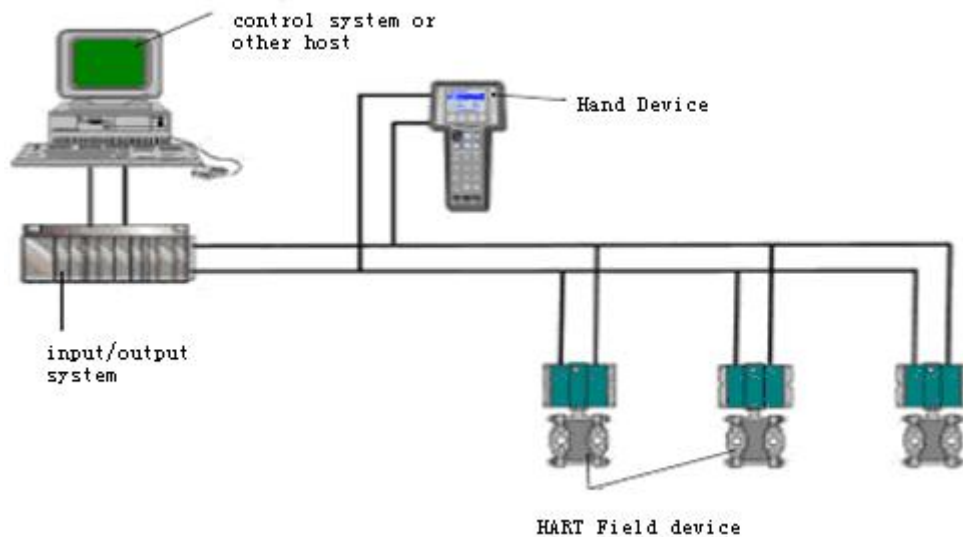

**Figure 5-1 Point-to-Point Connection**
- **Point-to-Point(Figure 5-1)**